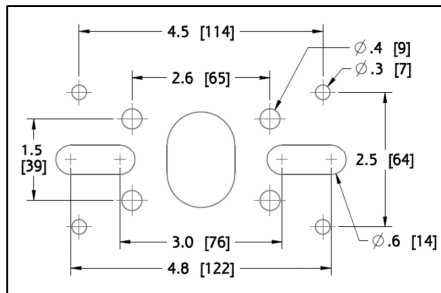

Fig.1b
- Secure the mounting bracket onto application surface by means of hole pattern on mounting bracket [Fig.1b]